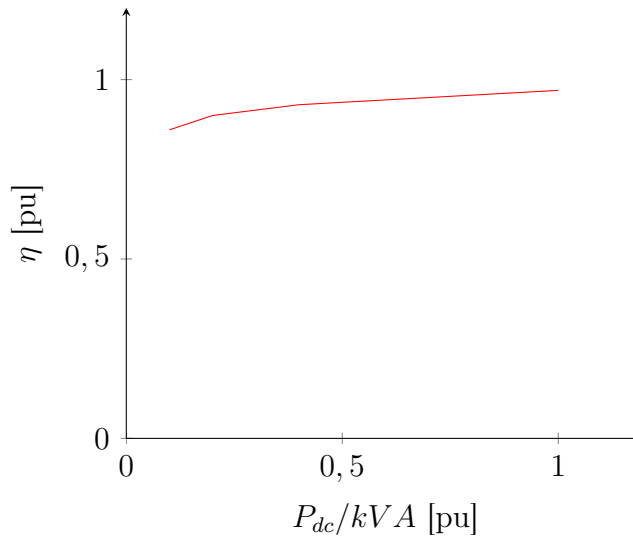

Figure 3: Inverter efficiency curve
- *EffCurve*: Inverter efficiency curve. This curve characterizes the variation of the inverter efficiency as a function of the power from PV array, P_{dc} , in per unit of inverter's kVA rating, as can be seen in the Figure 3. For each DC bus voltage, there is an efficiency curve of the inverter, however, the present version of the model only defines one curve that generally corresponds to the rated voltage of the DC bus. To define this curve in OpenDSS, the user must use the XYCurve object, as shown below.